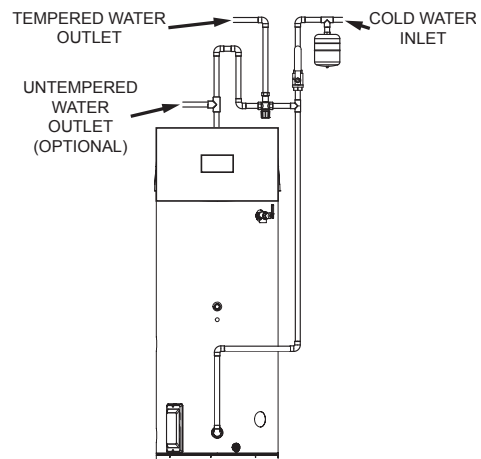

Figure 4.
- The cold water supply line must have a shut-off valve and union. See Figure 4.